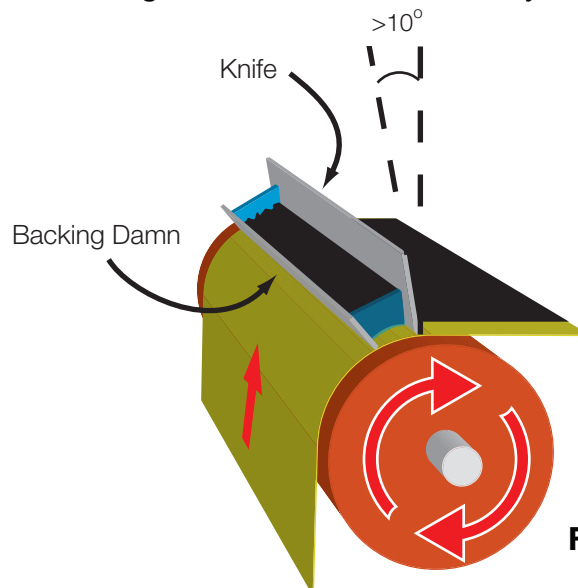

Figure 1: Recommended coating head configuration.
- Employ backing dams in coating heads (Figure 1)
- Tilt the knife towards the backing damn to increase hydrodynamic pressure (Figure 1)